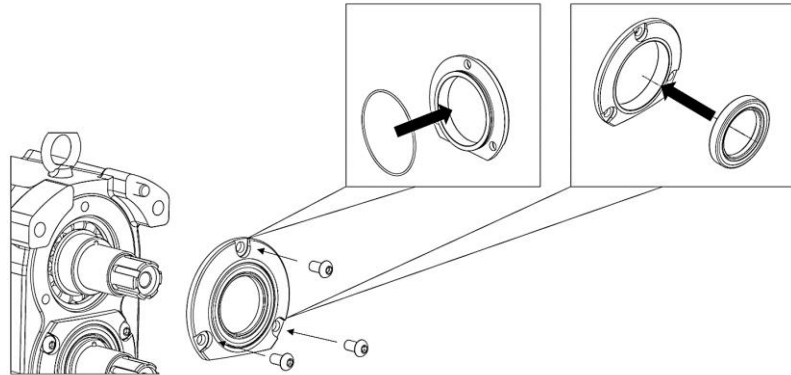

Figure 52: Bearing Retainer Installation
4) Press new oil seals into the bearing retainers making sure the top of the seal is flush with the top of the retainer (Figure 52,A). Apply a light film of lubricant to the new bearing retainer o-rings and install them to the bearing retainers (Figure 52,B). After lubricating the lip of the oil seal slide them over the shafts and fasten them to the gear case using the retaining screws.